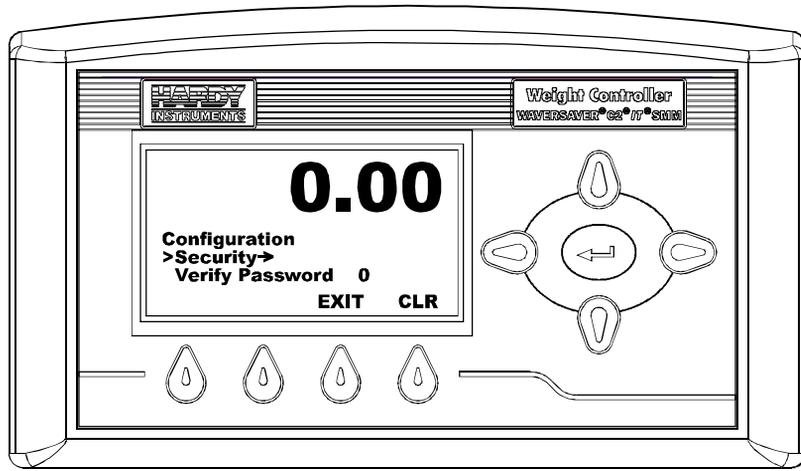

FIG. 277 CONFIGURATION MENU/SELECTING SECURITY
- Step 1. From the Configuration Menu press the down arrow until the cursor is in front of Security. (See Fig. 277)